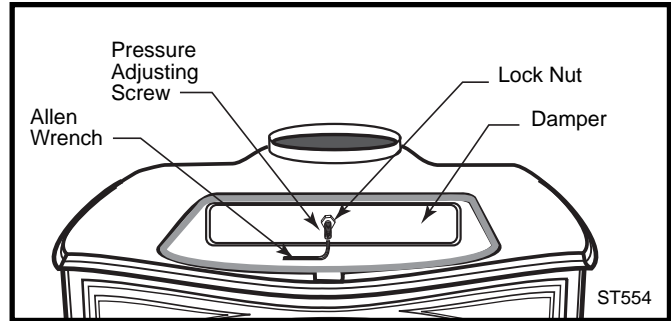

Fig. 34 Adjust the damper with the Allen wrench.
1. Remove the griddle. Loosen the lock nut at the center of the damper. (Fig. 34)